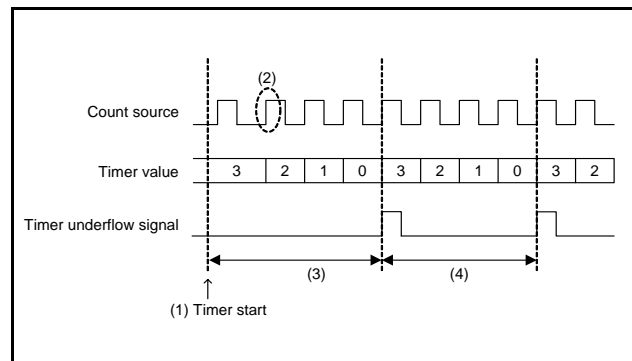

Fig 72. Timer count start timing and count time when operation starts (2)
(19) Timer 2, LC count start timing and count time when operation starts
Count starts from the first edge of the count source (2) in Figure 68 after timer 2 and LC operation start (1) in Figure 72.
Time to first underflow (3) in Figure 68 is different (for up to 1 period of the count source) from time among next underflow (4) in Figure 72 by the timing to start the timer and count source operations after count starts.